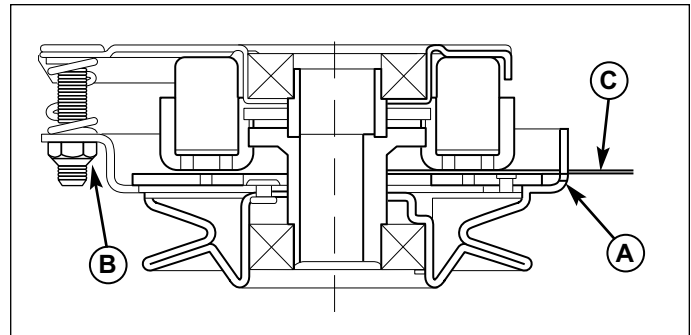

Figure 40. Adjust PTO Clutch
3. Insert a .012" - .015" (2,5 - 4 mm) feeler gauge (C) through each window, positioning the gauge between the rotor face and the armature face as shown in Figure 40.